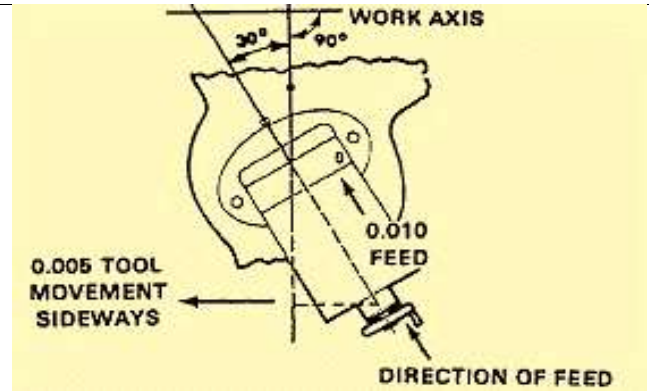

Figure 7-48. Facing using a graduated micrometer collar to measure bit movement.
**Precision Facing:** Special methods must be used to face materials to a precise length. A more precise method to face a piece of stock to a specified length is to turn the compound rest to an angle of 30 degrees to the cross slide and then use the graduated micrometer collar to measure tool bit movement. At this angle of the compound rest, the movement of the cutting tool will always be half of the reading of the graduated collar. Thus, if the compound rest feed is turned 0.010 inch, the tool bit will face off 0.005 inch of material. (Figure 7-48).